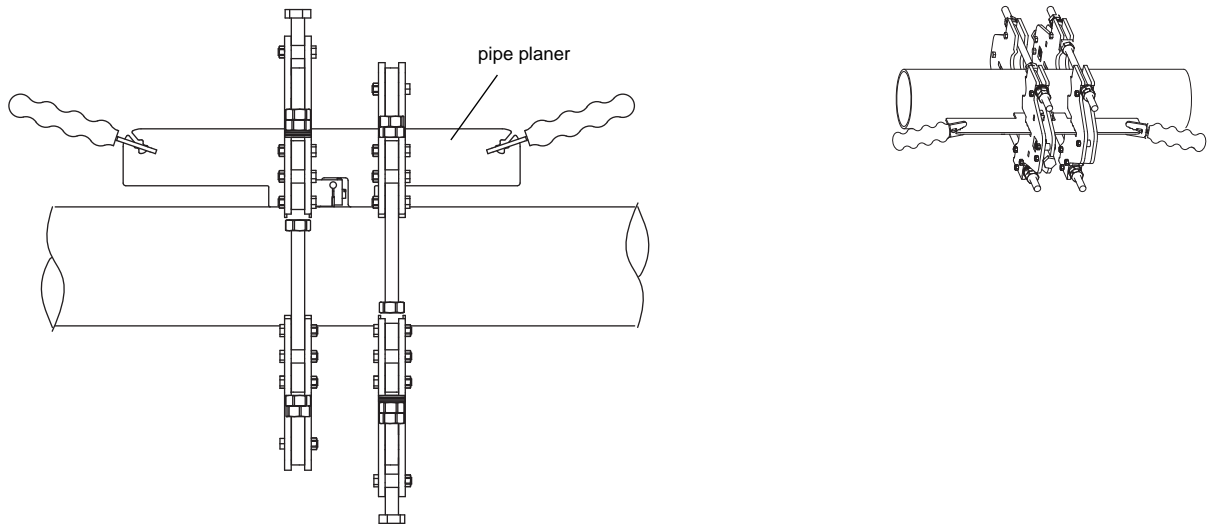

Fig. 3.6: Smoothing the pipe surface with the pipe planer
The pipe surface is smoothed by means of the supplied pipe planer (see Fig. 3.6). A reliable and permanent acoustic coupling between the pipe wall and the coupling plate is obtained due to a carefully smoothed measuring point.
- Push the pipe planer in the coupling plate apertures of the pipe mounting fixtures (see Fig. 3.6).